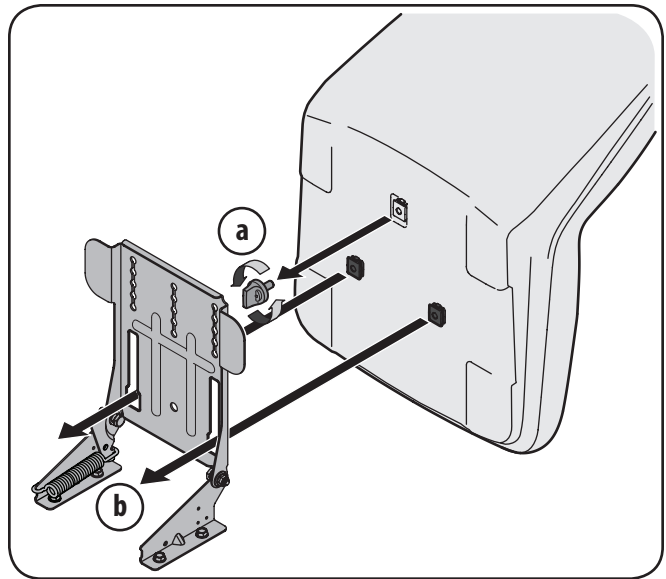

Figure 3-4
1. As already instructed, remove the seat adjustment knob installed by the factory in the bottom of the seat. See “a” in Figure 3-4.
2. Align the seat over the seat pivot bracket as shown in Figure 3-4 and fit the seat onto the pivot bracket inserting the two tabs on the seat bottom into the slots on the pivot bracket.